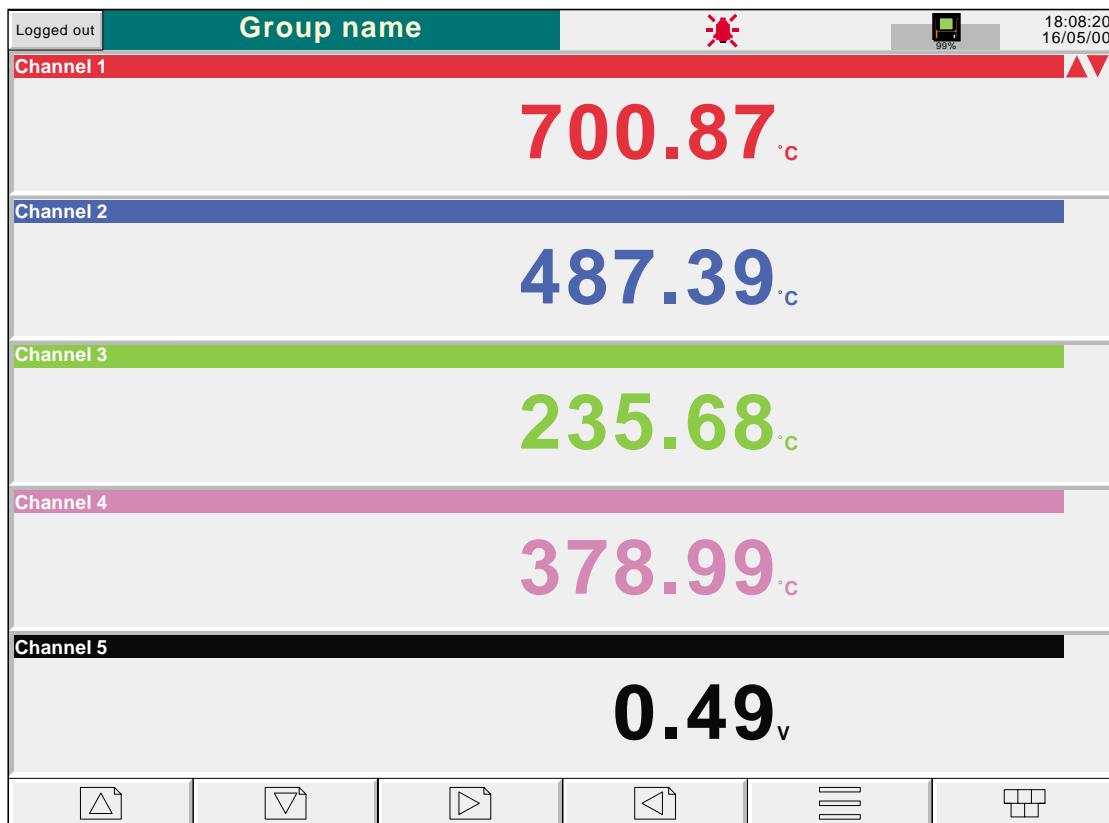

Figure 3.4.5a Numeric display mode (1 to 5 channels)
Entered from Horizontal bargraph mode by means of the 'Cycle' or down arrow key, this display mode shows the Process Variable (PV) values as digital values. The format (which is automatically selected) is based on the number of channels in the display group. Figures 3.4.5a, 3.4.5b and 3.4.5c, show typical examples of the one column (up to five channels), two column (six to 18 channels) and three column versions (19 to 24 channels) of this display mode respectively. Within each version, the process variable display areas expand or contract to fill the screen.